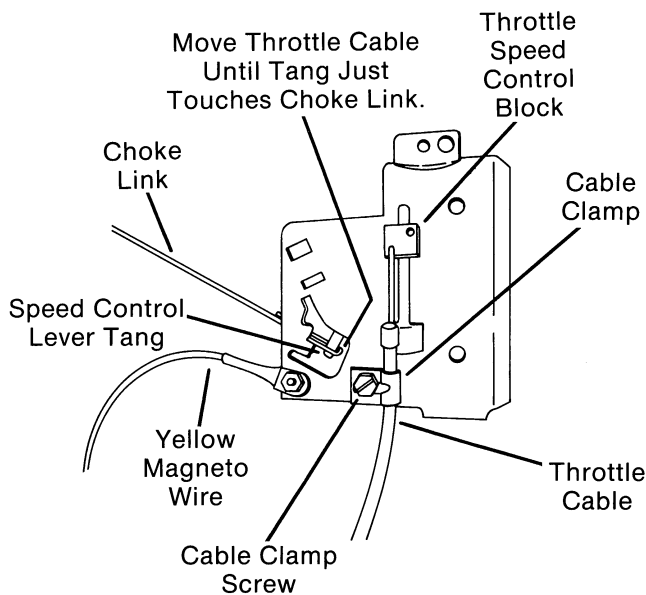

FIG. 4
- D. Disconnect throttle cable at engine, by loosening throttle cable clamp screw enough so that cable can be removed. Disconnect cable end from throttle speed control block. (Fig. 4)
- E. Disconnect yellow wire to magneto at left rear corner of engine next to throttle cable clamp screw. (Fig. 4)